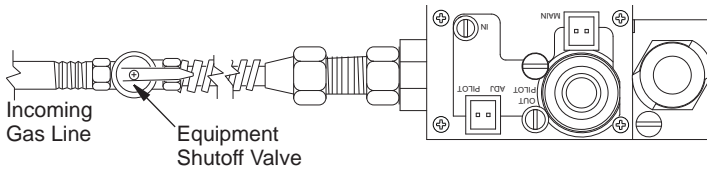

Figure 25 - Turning Equipment Shutoff Valve to the OFF Position
3. Turn equipment shutoff valve clockwise ↻ to the OFF position (see *Figure 25*). Do not force.
4. Wait five (5) minutes to clear out any gas. Then smell for gas, including near the floor. If you smell gas, STOP! Follow "B" in the safety information. If you don't smell gas, go to the next step.